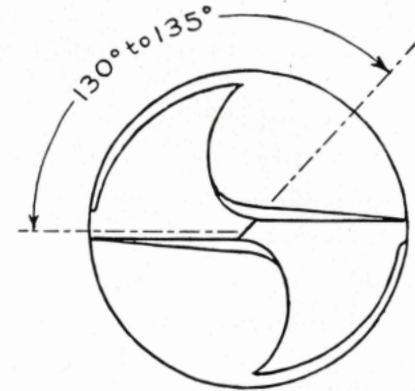

Figure 11—Web after point thinning
3. After grinding the cutting edges, it may be necessary to thin the point or web (figure 11). If the width of the point is too great, excessive pressure will be required to start the drill and it will tend to rub rather than cut. On the other hand, if the point is too thin, there is a tendency for the web to split. Proper pointing diminishes the power required to feed the drill, enabling it to cut more freely.